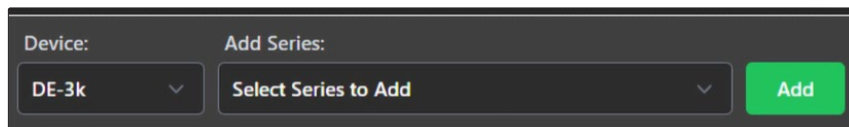

Figure 53
- b. Select the device you want to trend from the Device dropdown list. Then choose the channel from the Add Series dropdown list and click the **Add** button. See Figure 53.